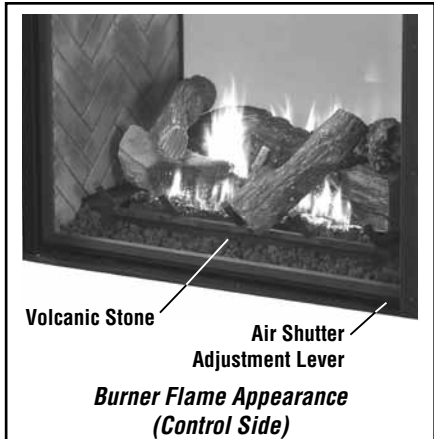

Figure 21
2. Allow the burner to operate for at least 30 minutes while continuously observing the flame to ensure that the proper flame appearance has been achieved (see **Figures 21 and 22**).
3. Adjust the air shutter using the Air Shutter Adjustment Lever on the lower right side of the firebox (see **Figure 21**).
Note: See **Figures 21 and 22** for proper burner flame appearance.